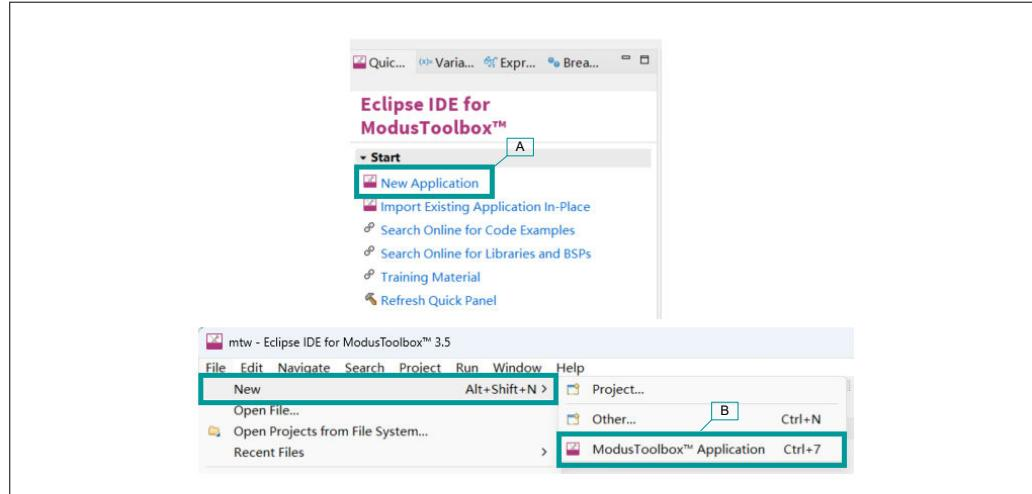

Figure 5 Create a New ModusToolbox™ Application
- Alternatively, you can choose **File > New > ModusToolbox™ Application**, as Figure 5 shows. This displays the Eclipse IDE for ModusToolbox™ Application window